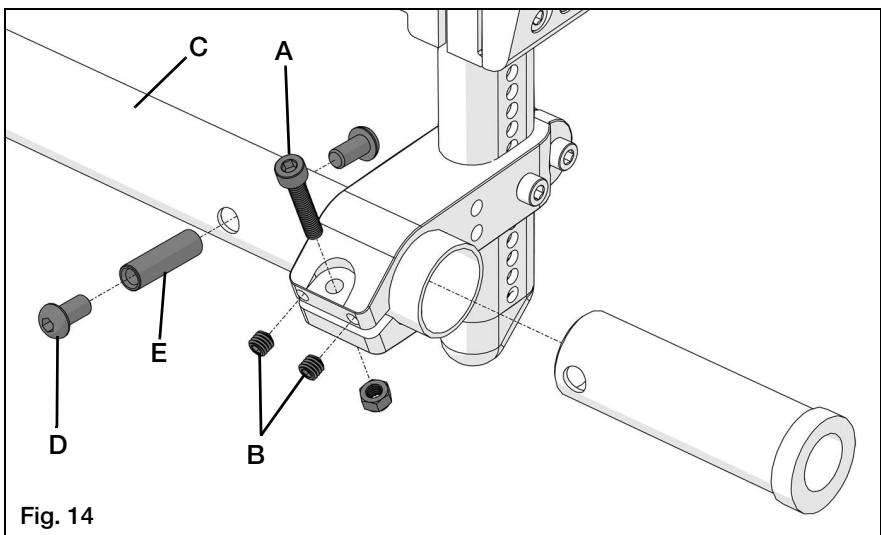

Fig. 14
1. Loosen the two cap screws (Fig. 14:A) (1 per side) that secure the camber tube clamp. Then loosen set screws (Fig. 14:B), 2 per side.
2. Rotate the camber tube (Fig. 14:C) until the screws (Fig. 14:D) that secure the camber adapters are level with the ground. The toe is now set at zero.
3. Before tightening the screws (Fig. 14:A and B), make certain that the camber tube is centered left-to-right relative to the wheelchair frame. There should be an equal gap on both sides or none at all.
4. Tighten one screw to 80 in/lb (9.04 N\*m) (Fig. 14:A) then tighten the screw on the opposite side to 80 in/lbs (9.04 N\*m).
5. Tighten set screws (Fig. 14:B) until securely in place.
Removing the Camber Tube on your Clik (Fig. 14)
2. Remove 6mm screw (Fig. 14:D) using two Allen wrenches.
3. Press threaded barrel (Fig. 14:E) through camber tube using Allen wrench.
4. Loosen 6mm screw (Fig. 14:A) to release clamp.
5. Loosen set screws (Fig. 14:B).
6. Slide camber adapter (Fig. 14:G) from end of camber tube (Fig. 14:C).